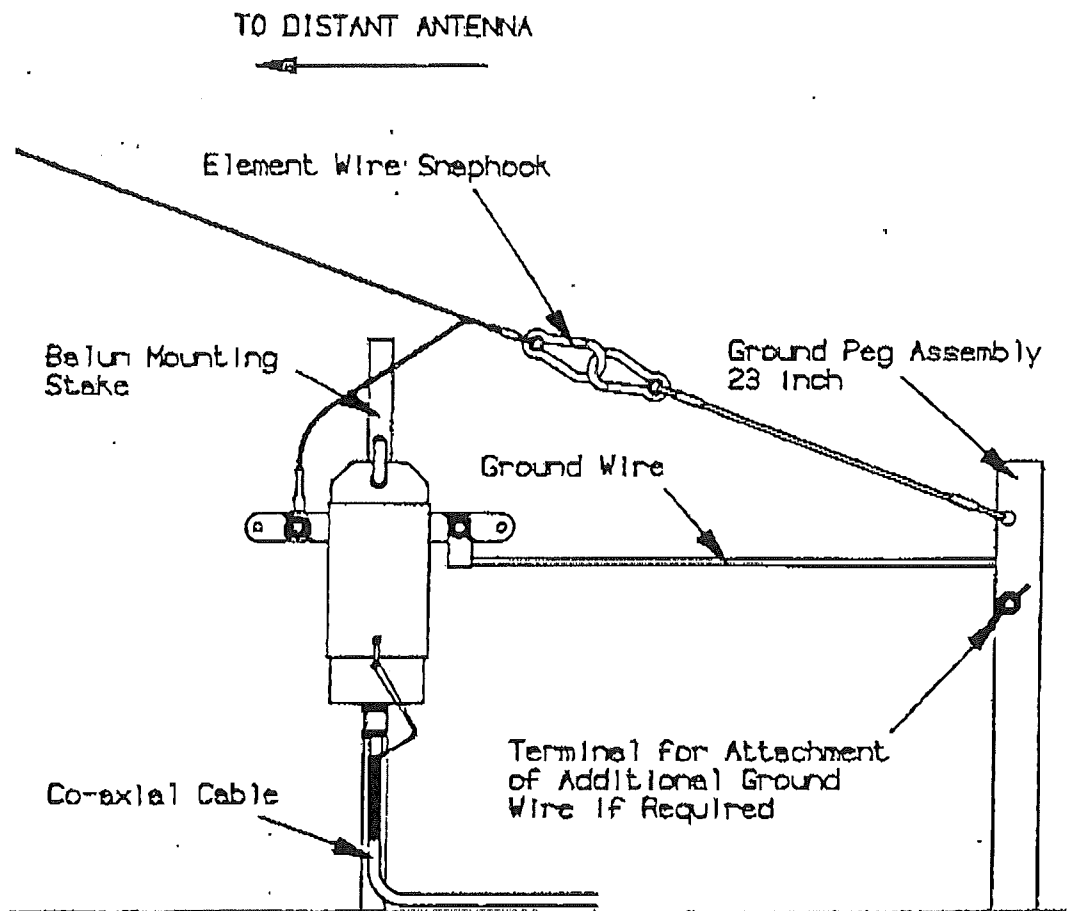

Figure 5-4b. End Fed Terminated Wire, Balun Connections
- Step 17 Attach the coax to the Balun. Hang the Balun on the Balun Mounting Stake and hook up the element wire and ground connection. See Figure 5-4b.